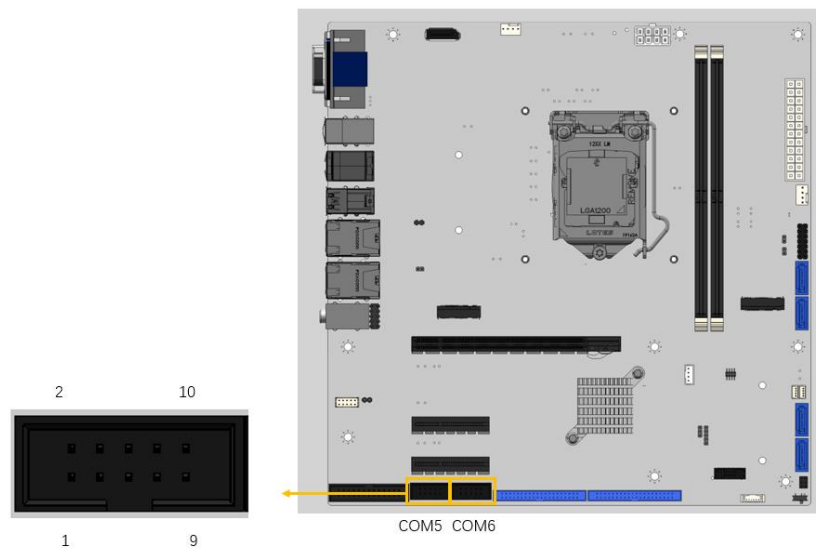

Figure 3-31: RS-232 Connector Locations
- CN Location:** See Figure 3-31